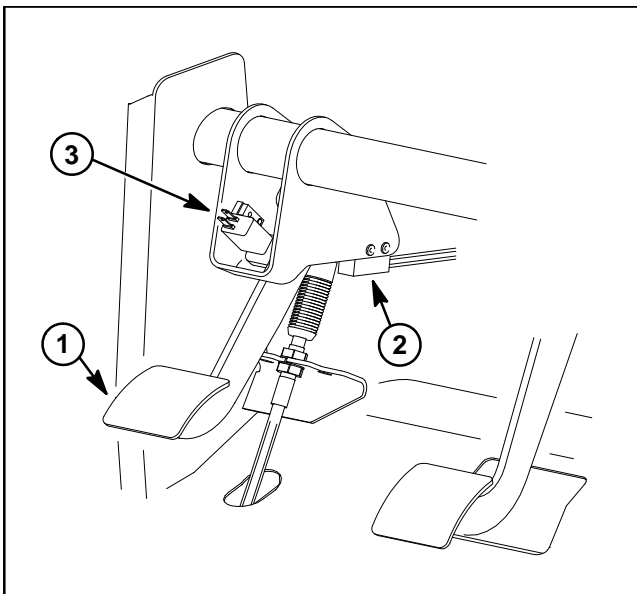

Figure 12
A proximity switch is attached to the frame under the dash of all units (Fig. 12). The switch is in its normal open position as long as the clutch pedal is released (clutch engaged). When the clutch pedal is depressed (clutch disengaged), the pedal is positioned close to the clutch switch causing the switch to close. The closed clutch switch is used in the starting interlock system to make sure that the drive system is disengaged during engine starting.
An additional switch is attached to the frame under the dash of 4WD units only (Fig. 12). The terminals of this switch are closed when the clutch pedal is released (clutch engaged – clutch pedal depressing switch plunger). In this position current is allowed to pass through the switch to energize the 4WD relay. When the clutch pedal is depressed (clutch disengaged – clutch pedal not contacting the switch plunger) the terminals switch to the normally open state, and the current path to the relay is broken.
1. Park vehicle on a level surface, shut engine off, remove key from ignition switch and apply parking brake. Locate the clutch switch (Fig. 12).